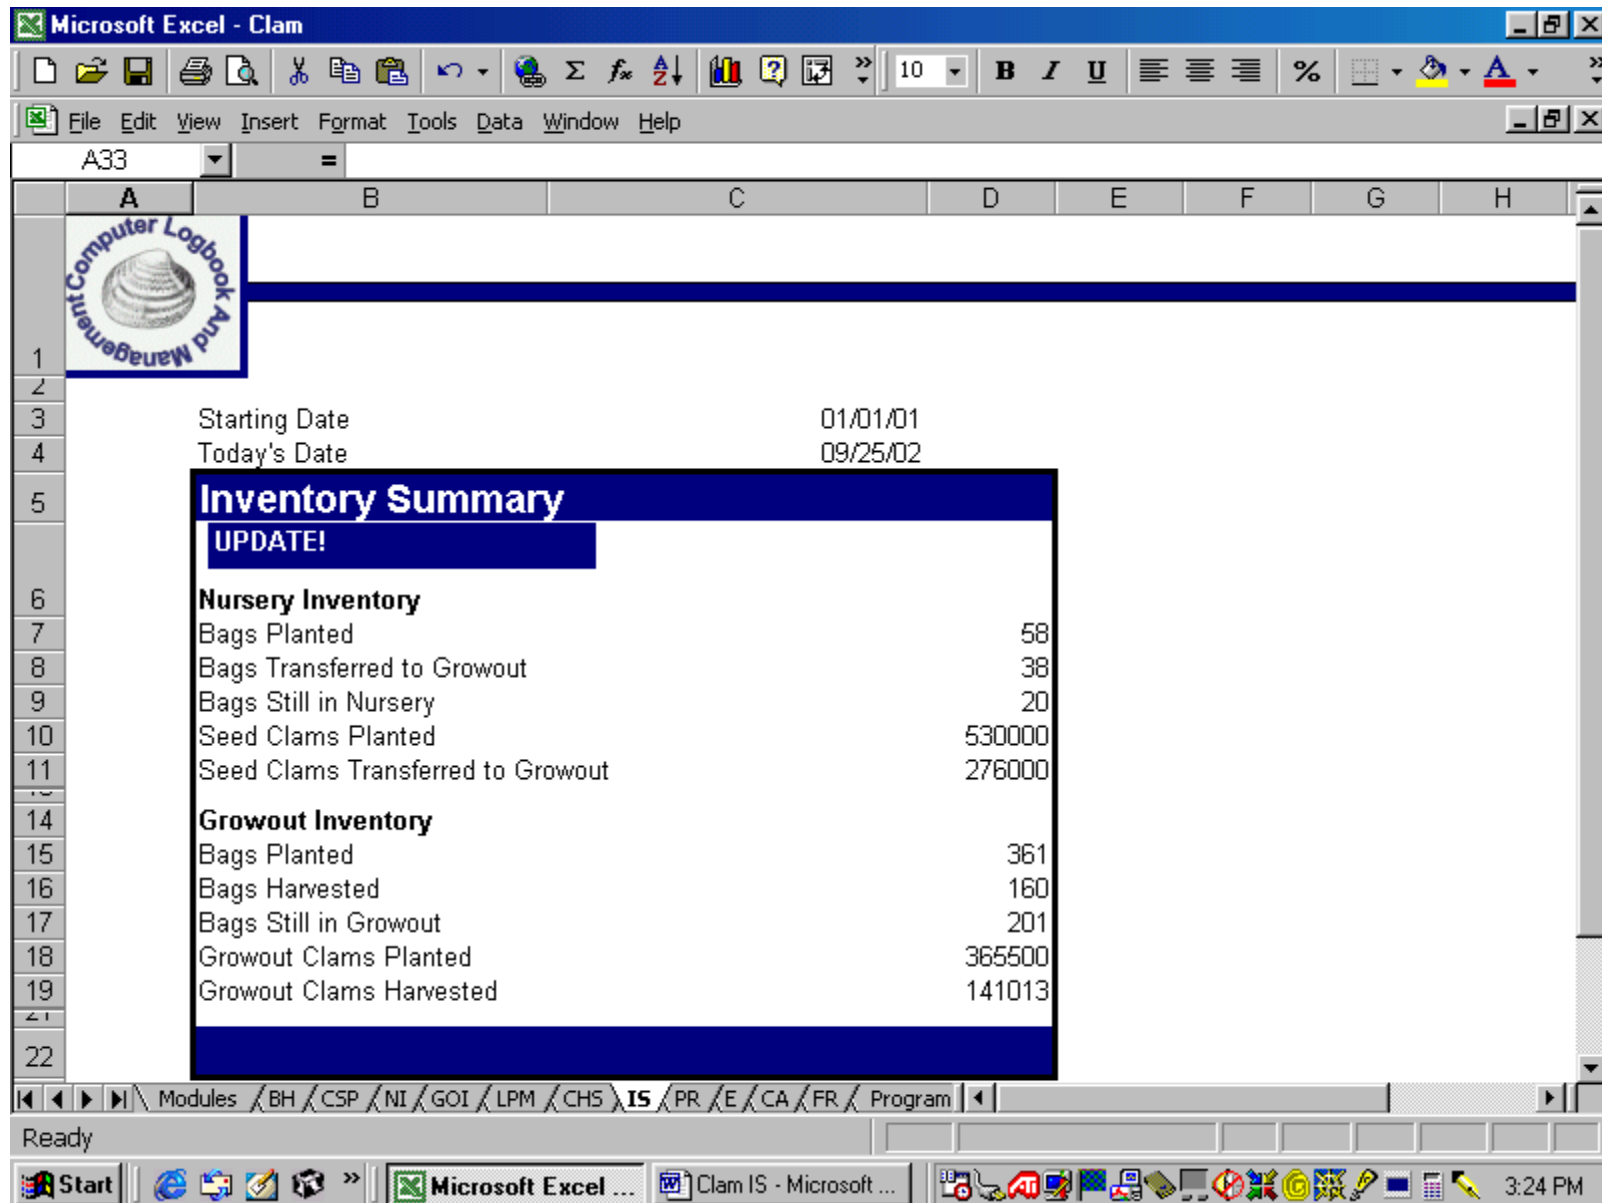

Figure 10.
**This module supplies the user with a current review, or “snapshot”, of what has been planted in nursery bags, transferred to growout bags, or harvested, as well as what is still remaining on the lease parcel. (see Figure 10)**